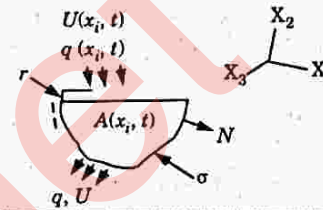

Fig. 1.6.2. Definition sketch of a channel cross section.
- For a channel cross section with an area A as shown in Fig. 1.6.2, the boundary condition is.